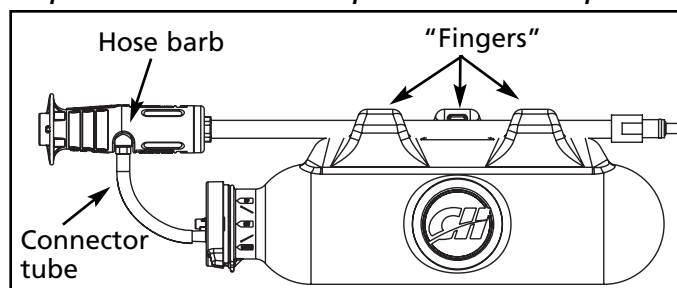

Figure 1
1. Place the tank on a sturdy, flat surface. Then wedge metal shaft of lance between the three "fingers" on top of tank (see Figure 1). NOTE: The fit is very tight. Use caution to prevent damage. Heating the center finger with a hair dryer will make installation easier.
2. Slide free end of connector tube onto hose barb attached to head of lance (see Figure 1).